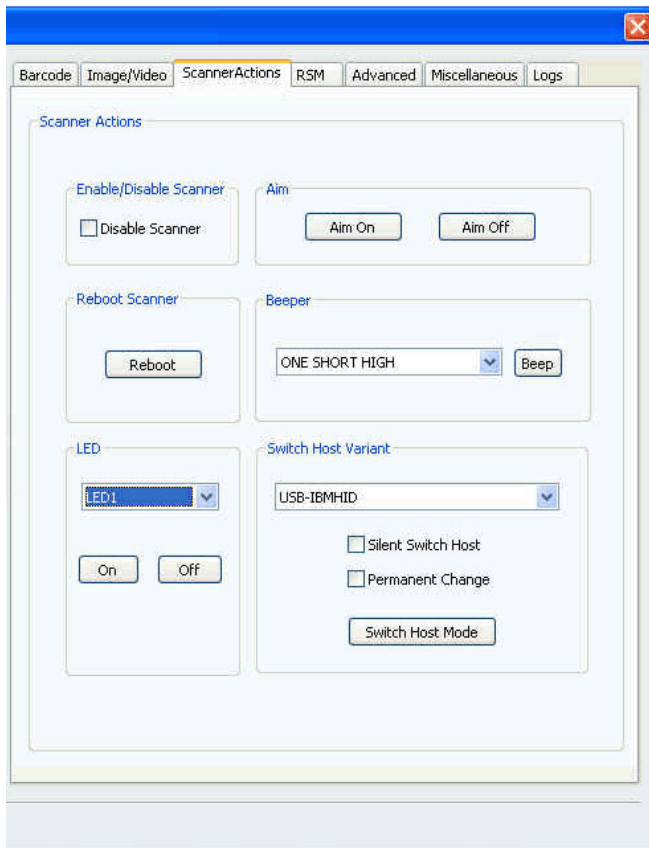

Figure 4-9 LED Selection
3. Select the desired LED from the list, defined on the *Scanner Actions* tab (see Figure 4-9 on page 4-16).
- ✓ **NOTE** The <scannerID> tag in the XML is filled with the scanner ID selected in the *Connected Scanners* list of the sample application. The <arg-int> tag in the XML is filled with the corresponding action value to turn on or off the LED selected from the drop-down list shown in Figure 4-9.